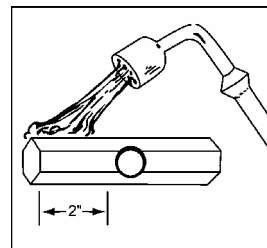

Figure 4.1
2. Heat the lower 2" of the 1" x 6" rod until it reaches a cherry-red color, as shown in Figure 4.1.